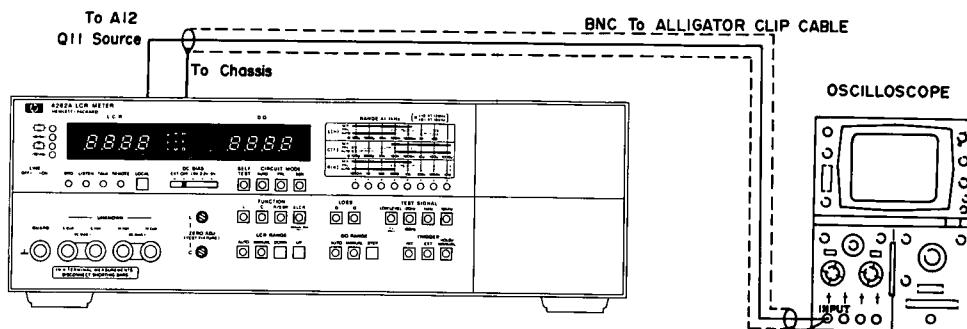

Figure 5-3. A12 Board Offset Adjustment.
- Connect BNC to dual alligator clip cable between oscilloscope and transistor A12Q11*source on the A12 Range Resistor Board Assembly (See Figure 5-3).